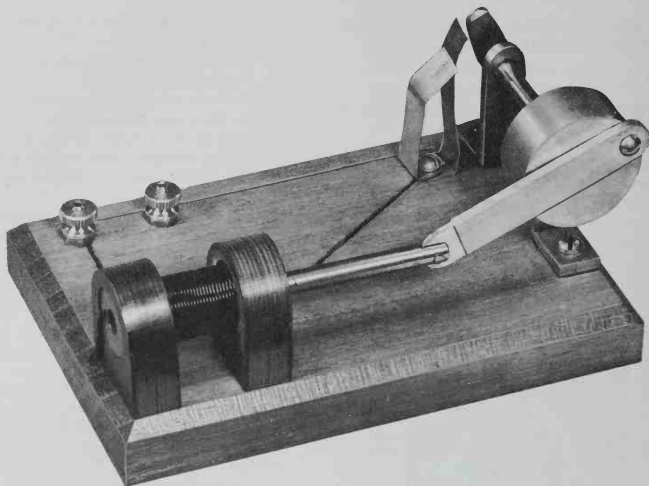

Fig. 18-42. An electric engine which demonstrates solenoid action and engine timing.
The easy-to-build engine shown in Fig. 18-42 demonstrates the conversion of electrical energy into reciprocating motion, and then to rotary motion by means of a connecting rod and flywheel. The engine operates by the solenoid action of the coil, which is energized when the breaker points close. The breaker cam on the end of the flywheel shaft should be made adjustable so that the engine may be "timed." For proper operation the points should close early on the inward stroke of the solenoid piston. The points must open just before the maximum inward stroke. The kinetic energy stored in the flywheel carries the engine through its no-power stroke. Fig. 18-43 shows the timing for proper operation.
3. In Fig. 18-42, the coil ends have been shaped from small blocks of wood.